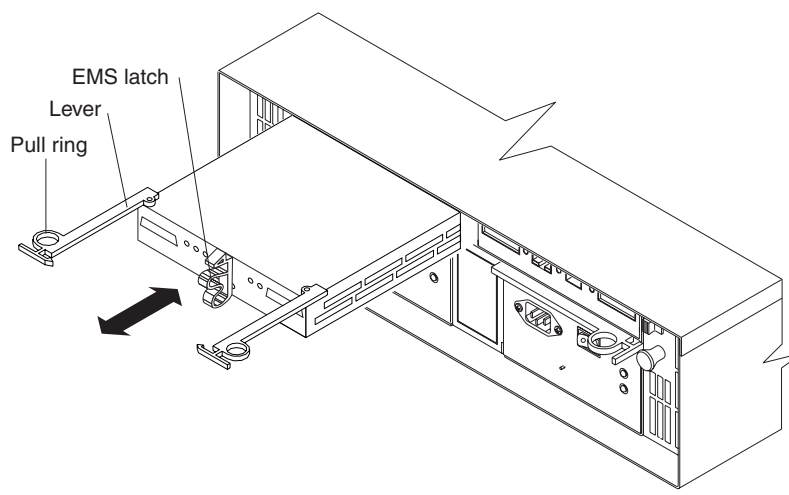

Figure 10. Removing an ESM
2. With the ESM latch in the down position, grasp the pull rings and pull out on the levers; then, remove the ESM from the bay as shown in Figure 10.